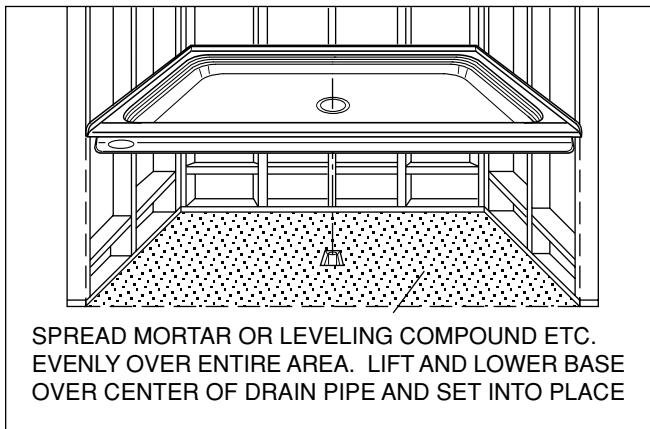

Figure 1
- STEP 1.** If the subfloor is level, no other preparation is necessary. You can proceed to install the base. If the subfloor is not level, level shower base by spreading floor leveling compound, mortar, plaster or minimal expansion structural foam with a density of a minimum of 5 lbs./cubic ft. **EVENLY** over **ENTIRE** area where base will be installed. (See Figure 1.) NOTE: The compound used **MUST** make contact with the entire bottom surface of the base feet. The base is **NOT** to be supported by the base flange.
If the subfloor is level, no other preparation is necessary. You can proceed to install the base. If the subfloor is not level, level shower base by spreading floor leveling compound, mortar, plaster or minimal expansion structural foam having a density of a minimum of 5 lbs./cubic ft. **EVENLY** over **ENTIRE** area where base will be installed. (See Figure 1.) The compound used **MUST** make contact with the entire bottom surface of the base feet. The base is **NOT** to be supported by the base flange. Both sides of a joint or splice of sub-floor should be level to each other. Level and support waste pipe cutout area greater than 5" x 5".